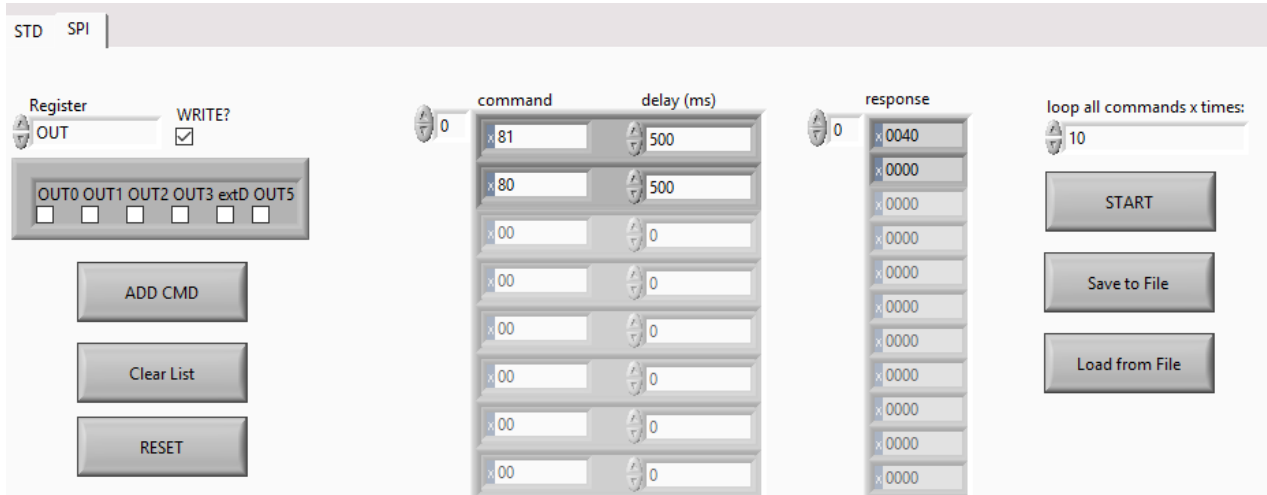

Figure 39 - Response of SPOC™+2 in response list
- The response of the SPOC™+2 is shown in the response list (See Figure 39)